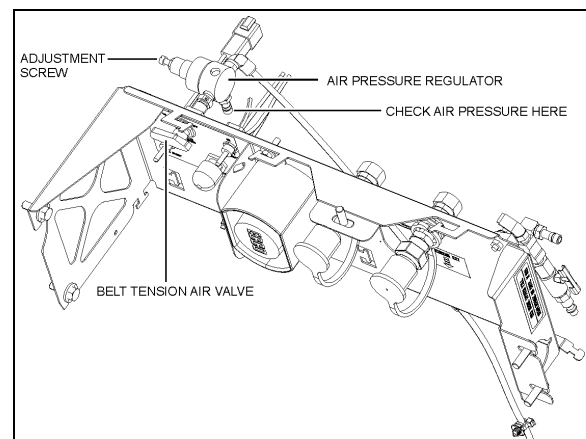

FIGURE 9: AIR PRESSURE REGULATOR 12143
2. Access this valve by tearing out the finishing panel, which holds the controls in place (Figure 9).